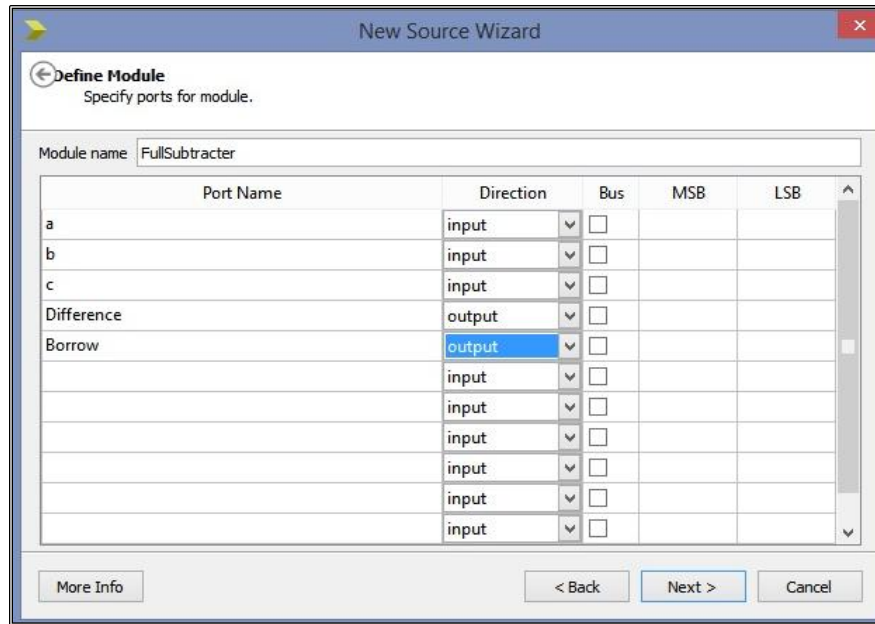

Fig 4.3: Module Definition
6. In the **Define Module** page, enter the port information for the “FullSubtractor” as follows (Fig 4.3):